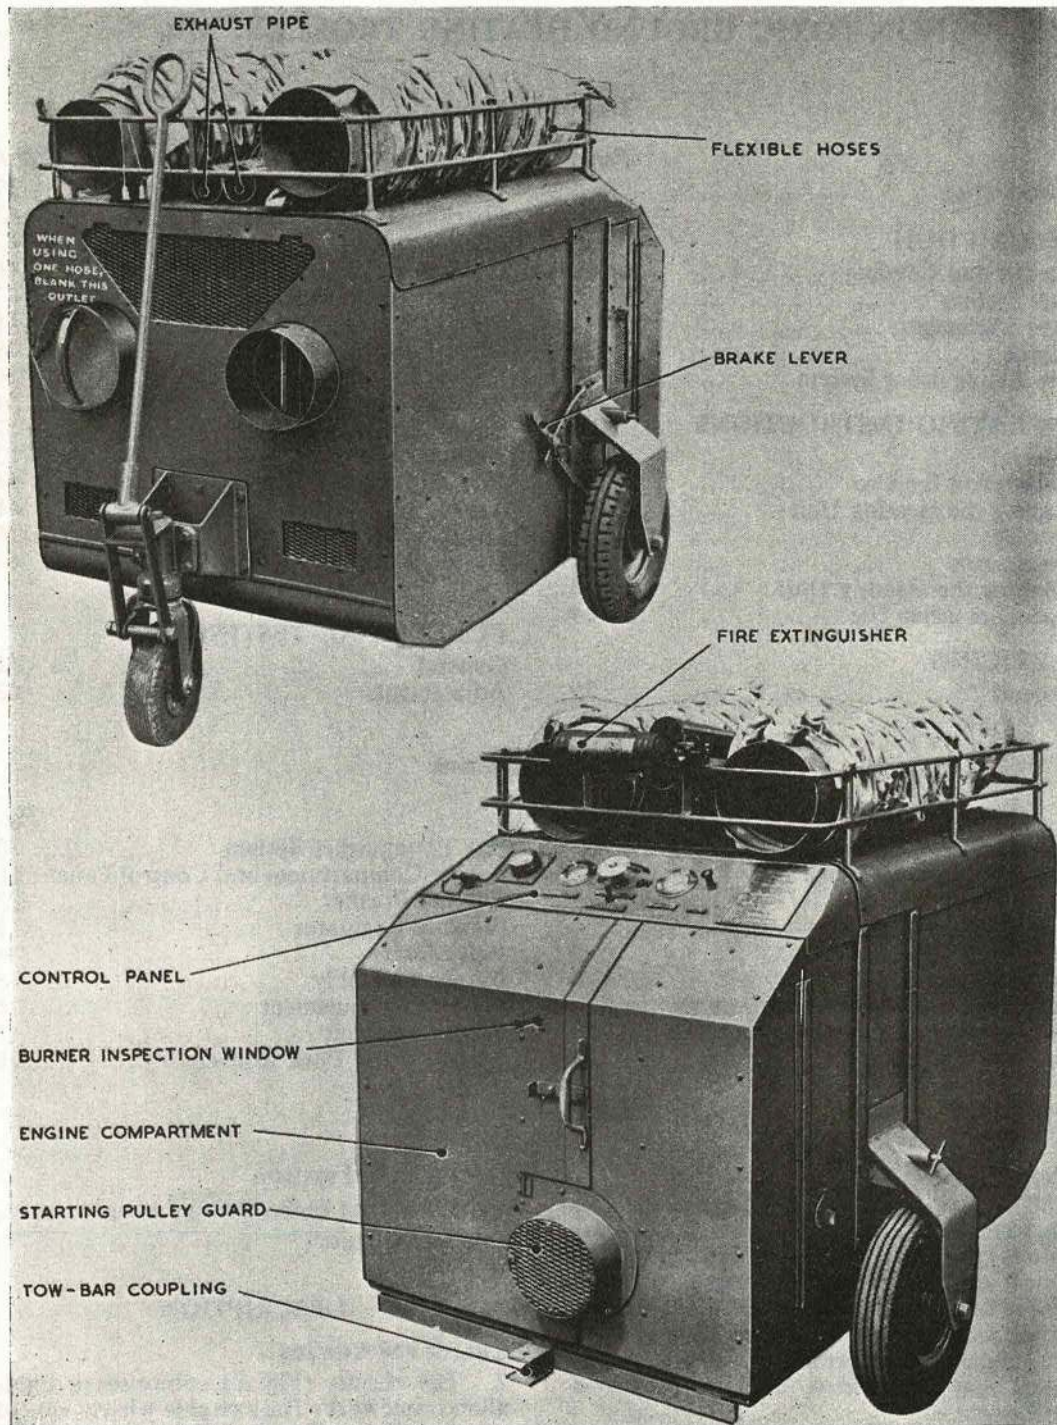

Fig. 1. NON-TOXIC GROUND HEATING TROLLEY, Mk. 3
1. The non-toxic ground heating trolley Mk.3 (Fig. 1) is used to supply hot air for various purposes, e.g. the pre-heating of aircraft engines; with the heating unit shut off, the unheated air can be used to improve air circulation inside an aircraft during servicing. For the purpose of description the trolley may be divided, broadly, into four main parts:—